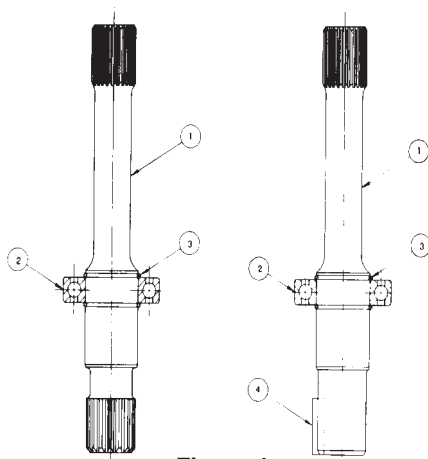

Figure 1
See figure 1. Pass one retaining ring (3) over the internal end of drive shaft (1) and install in the groove near the shaft seal surface.
PARTS LIST FOR FIGURE 1